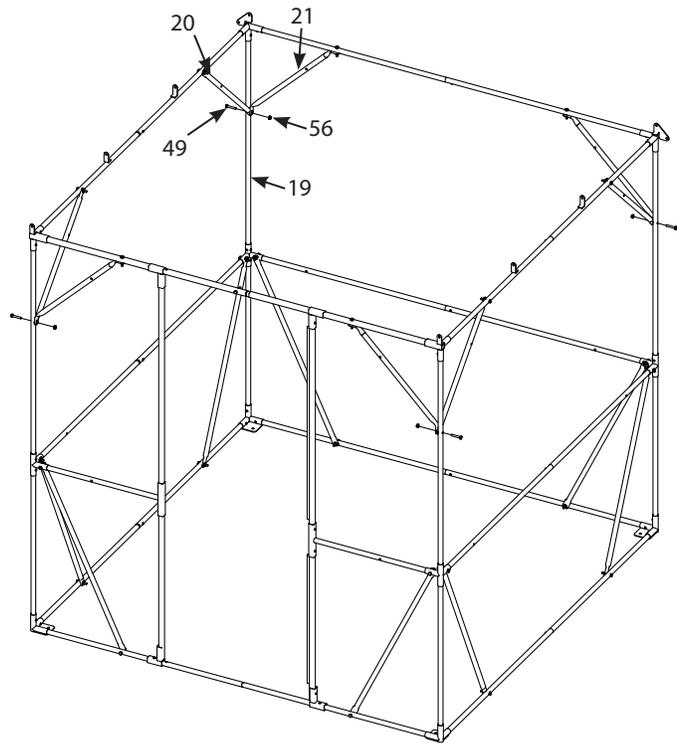

FIGURE 8
8. Attach each set of angled braces (20, 21) to the four (19) poles using a 1/4-20 X 1-1/2 IN bolt (49) and 1/4-20 nut (56) for each set. **SEE FIGURE 8.**